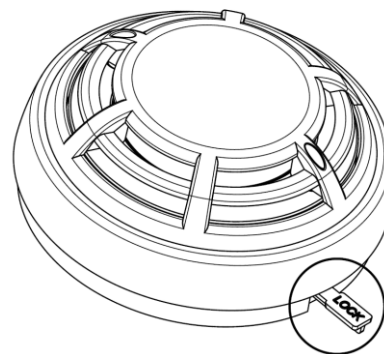

Fig.4
- If the detector is locked to the base to unlock, insert the key to stop the specified place (Figure 4) and rotate the detector in the direction counterclockwise;